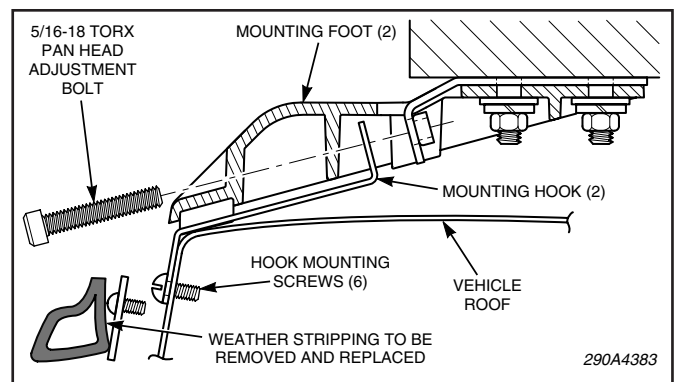

Figure 1.
2. See figure 1. The vehicle's weather stripping must be removed to properly mount the hook. To remove the weather stripping from the vehicle, loosen the torx screws.